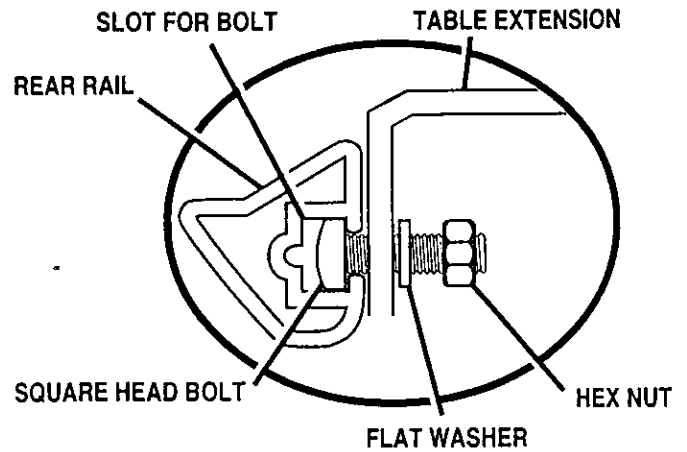

Fig. 3
- Under the table, loosen all of the hex nuts on the square head bolts that hold both front and rear rails. *See Figure 3.*
**Note:** The square head bolts, washers, and hex nuts shown at the top of figure 3 should still be on the table saw. If you mistakenly removed them, put them back on the table. Do not tighten.